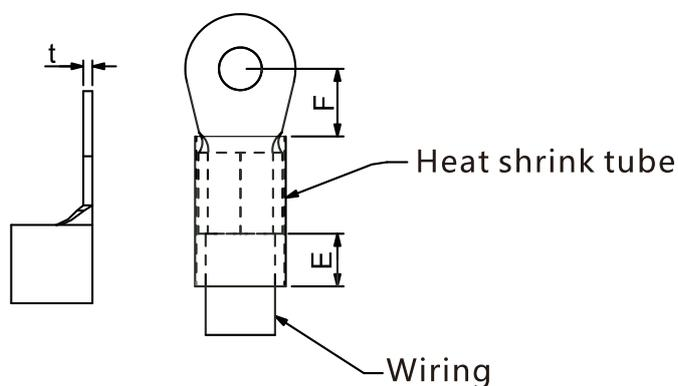

Figure 4-17
- As shown in Figure 4-17, use insulated heat shrink tubing that is resistant to at least 600 VAC to comply with UL and CSA regulations (600 VAC, YDPU2/8).